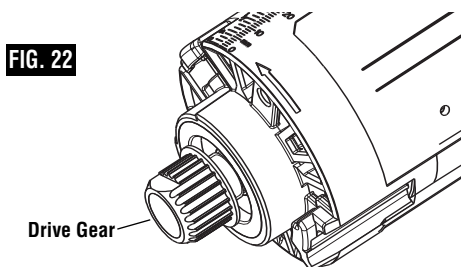

FIG. 22
1. Remove collet from motor and install toothed drive pulley using collet wrench. Make sure that drive gear is fully tightened onto the motor's spindle. (Fig. 22)